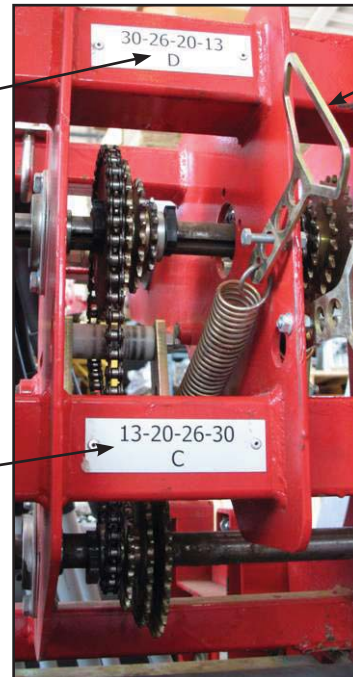

Figure 3
Figure 3 - illustrates on the left inside of planter closest to the A-frame with 4 sprocket combinations. This operation is to be performed while the planter is stationary. Release lever (1) and move the chain to the desired sprockets based on the combinations provided in the table. Then fasten lever (1) and tighten.